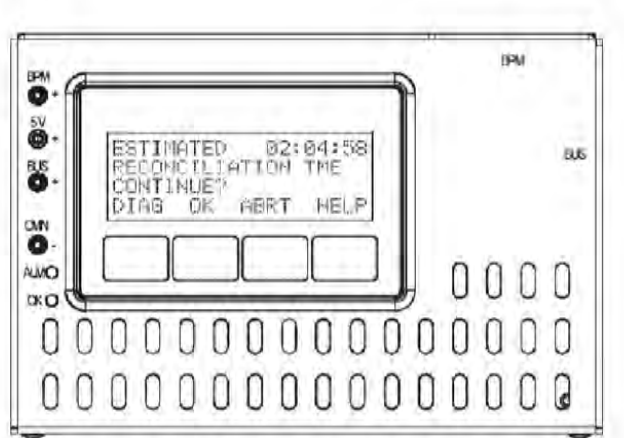
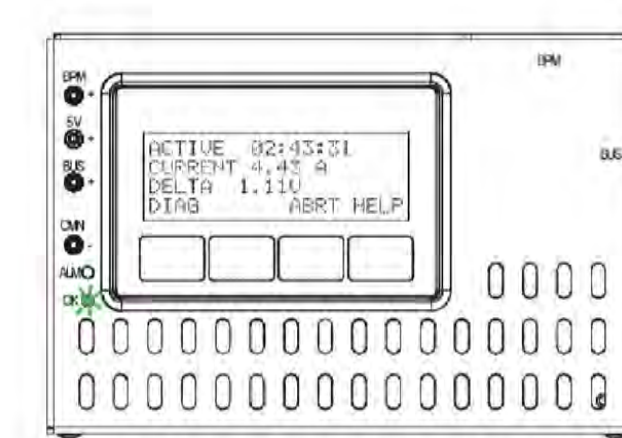
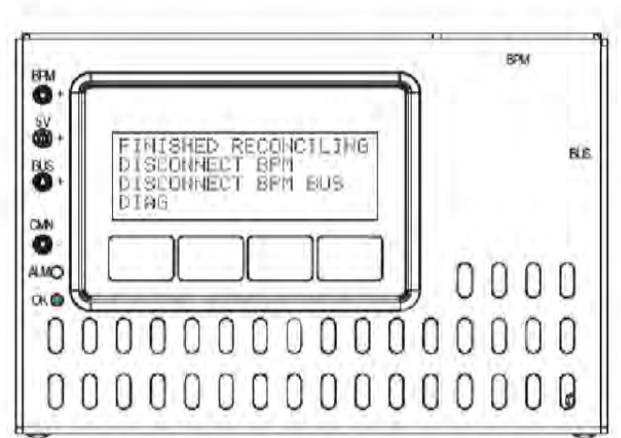

Fig. 5-9, BRD Screen - Reconciliation Estimated Time
Fig. 5-10, BRD Screen - Reconciliation in Progress
Fig. 5-11, BRD Screen - Reconciliation Complete
- Reconciliation will start - the green LED will blink during this process (Fig. 5-10). The top line on the BRD display will show an estimated time (Fig. 5-9). Ordinarily this is a rapid process unless the BPMs are not already balanced to a common charge level. During this process, the BRD may become warm to the touch. Reconciliation is done when the BRD's OK green LED lights up solid (Fig. 5-11).
- Reconciliation will start - the green LED will blink during this process (Fig. 5-9). The top line on the BRD display will show an estimated time (Fig. 5-10). Ordinarily this is a rapid process unless the BPMs are not already balanced to a common charge level. (Displayed on BRD.) During this process, the BRD may become warm to the touch. Reconciliation is done when the BRD's OK green LED lights up solid.